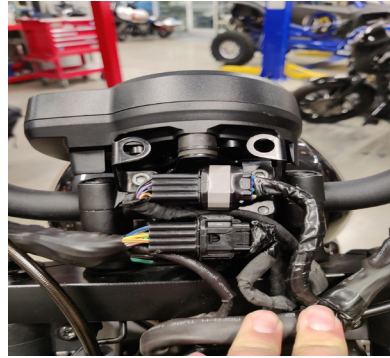

figure 44
51. Join all connectors and mount them back to their original location. Remember, the black connectors mount above the headlight and in front of the handlebar (figure 44). Reinstall the 2 bolts for the bracket stay.